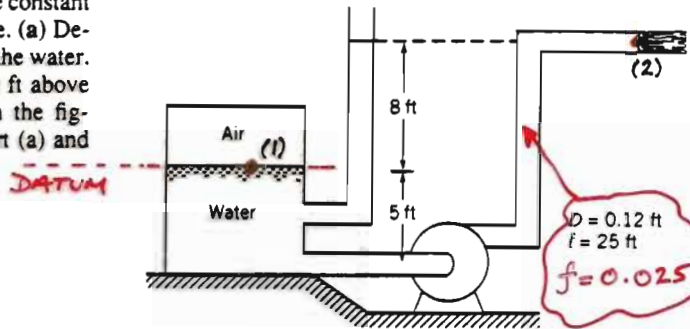

FIGURE P8.117
8.117 Water is pumped from a large, closed, pressurized tank as shown in Fig. P8.117. The friction factor for the constant diameter pipe is 0.025, and minor losses are negligible. (a) Determine the flowrate if the pump adds 1 horsepower to the water. (b) Repeat the problem if the outlet of the pipe is 10 ft above the air-water interface rather than 8 ft as shown in the figure. Comment on the differences between that of Part (a) and Part (b).